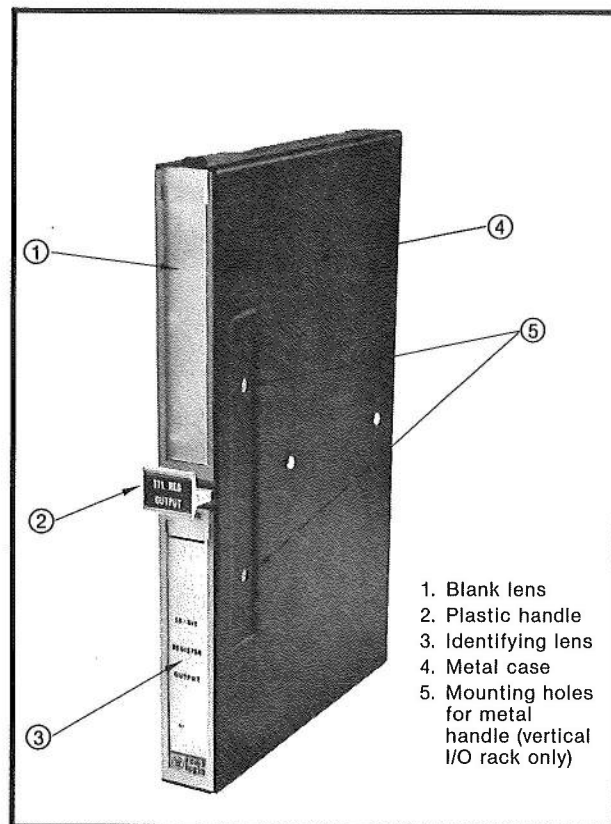

Figure 1 — 16-bit Register Output Module
Step 1 — Slide the plastic pull handle into the slot between lenses on the front of the module. Fix the color-coded adhesive label to the front of the plastic pull handle. (Do not install the metal pull handle — it is designed for use with the vertical I/O rack only.) See Figure 1.